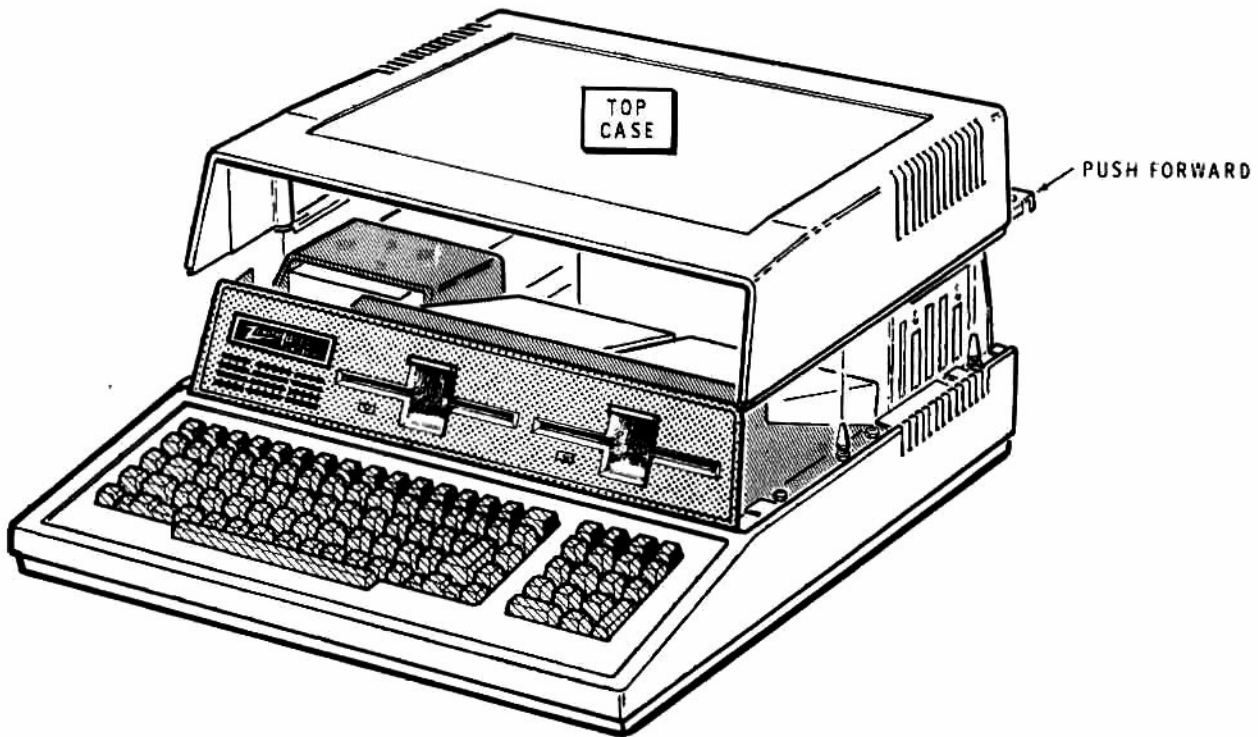

Figure 2.18. Top Case Installation
- Refer to Figure 2.18. Set the top case straight down on the base. Push the latches all the way to the front if they fail to snap into place.